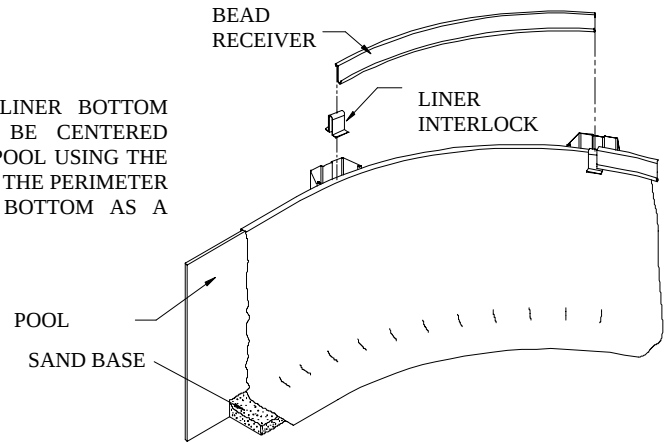

FIGURE 8B & C
Step 11: See Figure 8B, Detail 8B and Figure 10. Place the bead receiver on the wall. Tape the joints of the bead receiver using fabric tape to protect the liner. Place the top clips on the uprights. The support brackets (if provided) must be inserted into the round end uprights and rotated upward prior to installation of coping. Attach using one screw for the bracket and top clip and two additional screws for the top clip.